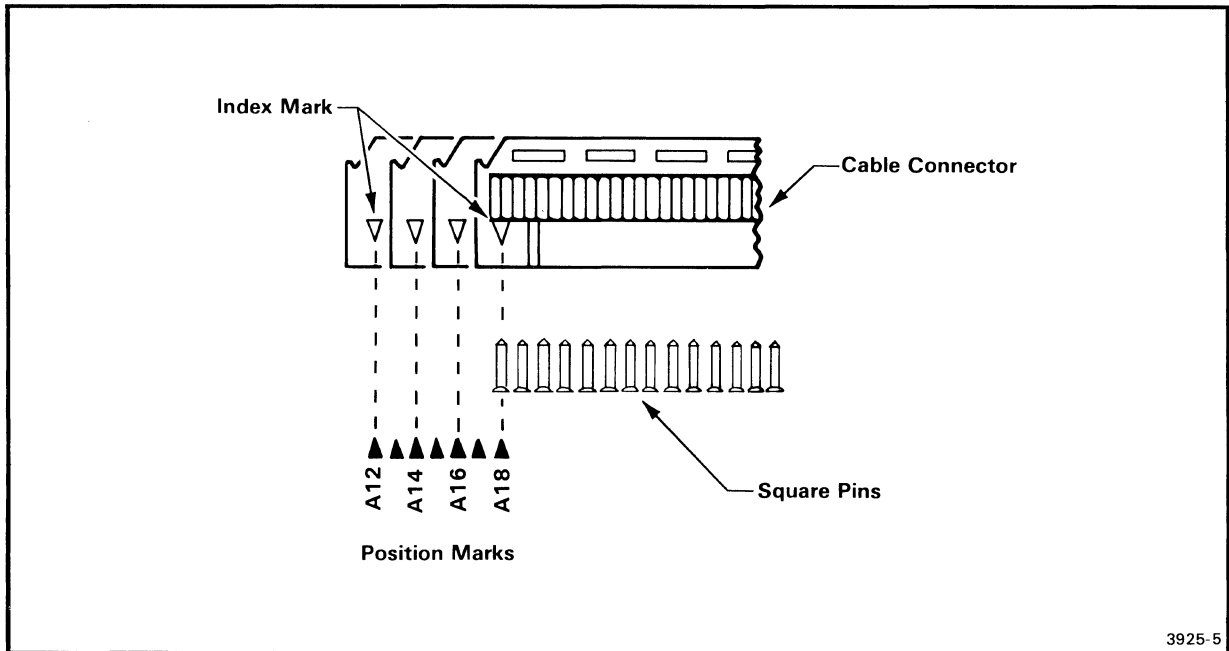

Fig. 2-3. Connecting P3151 to J3151.
3. As shown in Fig. 2-3, attach cable connector P3151 to the adjacent set of square pins (J3151). Be sure to align the connector index mark with the proper position mark on the circuit board, as determined from Table 2-2.